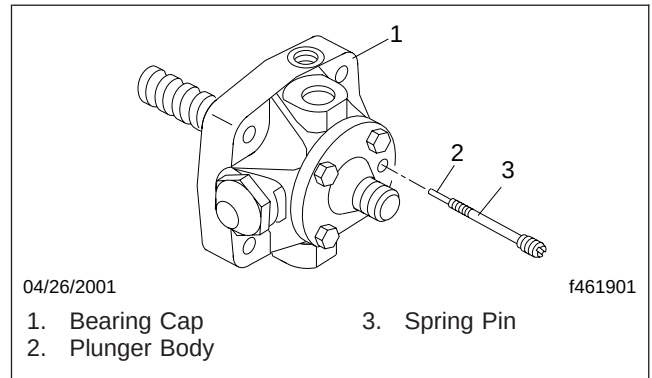

Fig. 5, Plunger Body Installation
12. Cover the O-ring on the new plunger assembly with a light coat of grease. Install the plunger body through the spring pin; see Fig. 5.